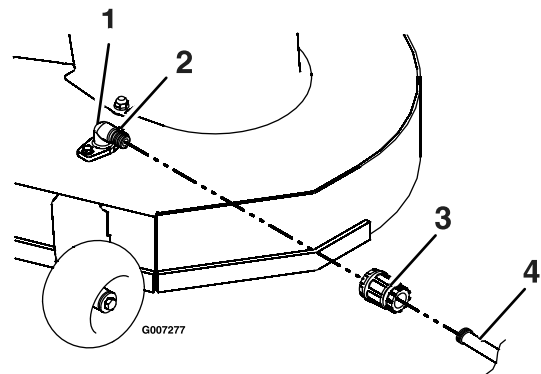

Figure 48
3. Attach the hose coupling to the end of the mower washout fitting, and turn the water on high (Figure 48).